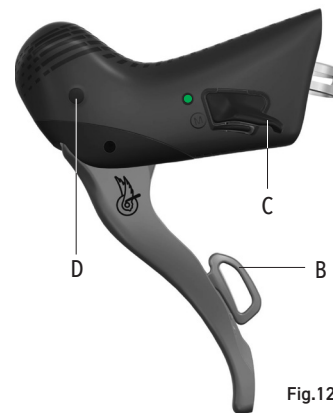

Fig.12
- By pressing the Thumb shifter, the rear derailleur shifts down (C - Fig.12).
- By pressing the Shift lever, the rear derailleur shifts up (B - Fig.12).
- By pressing on the Smart button, the rear derailleur shifts down (D - Fig.12).